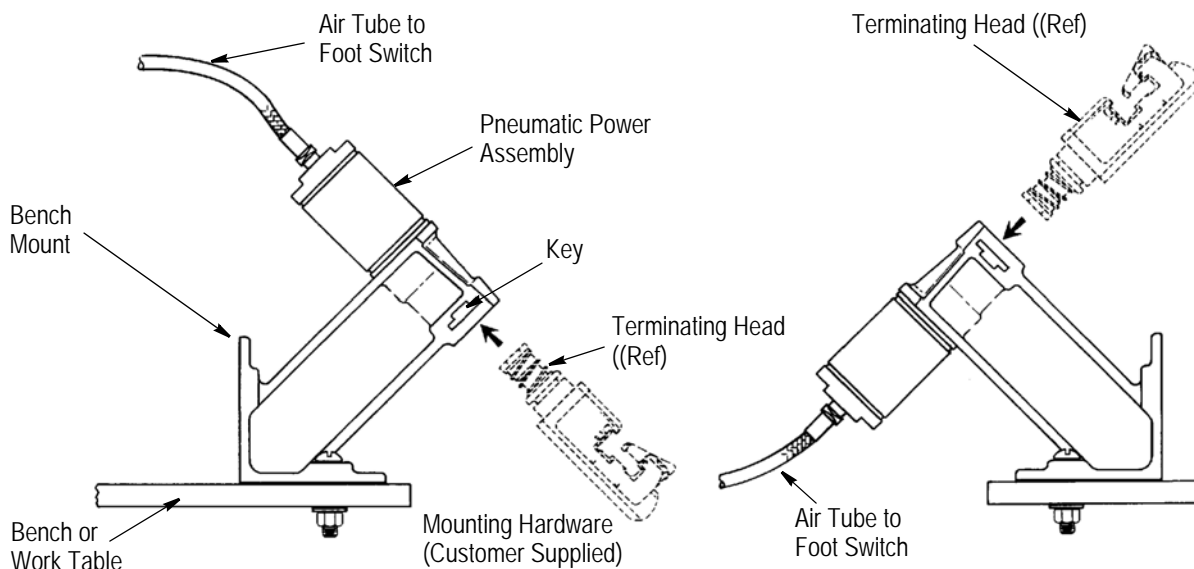
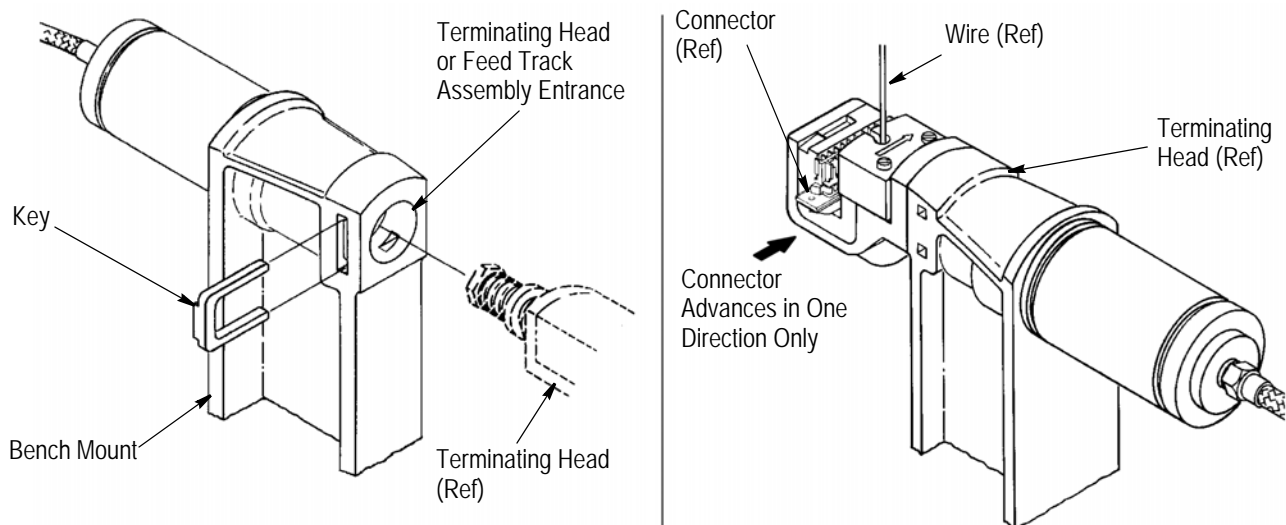

Figure 2
Figure 4
### 3. DESCRIPTION (see Figure 2)
The bench mount is designed to be mounted in either of the two positions shown in Figure 2. Orientation of the bench mount depends on operator preference and the desired eject direction of terminated connector (refer to Figure 4). Install the bench mount as follows:
3. Insert the terminating head or feed track assembly into the head entrance of the power assembly body until it bottoms. See Figure 4.
from air supply, remove the key, and pull the terminating head or feed track assembly out of the power assembly. Refer to Figure 4